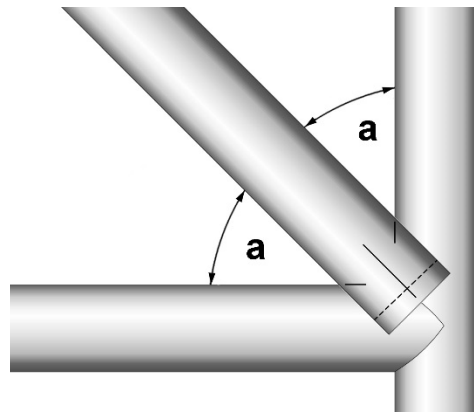

Figure 10-4: complex end notch
- Carefully identify top centerline, and mark it on tube. See Figure 10-4.